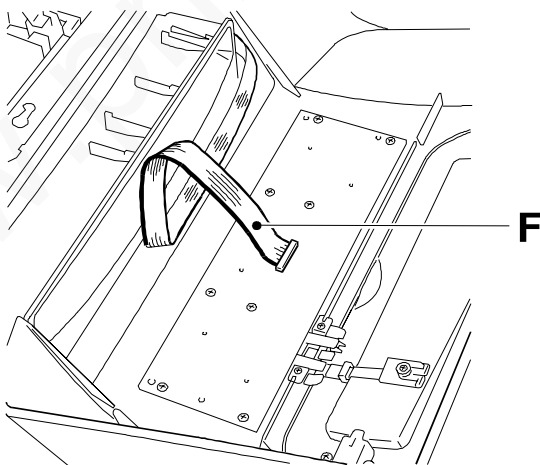

Fig. 7-10
- 3) Lift the casing upwards and flip it forward, then remove flat cable F from the console board (Fig. 7-10):